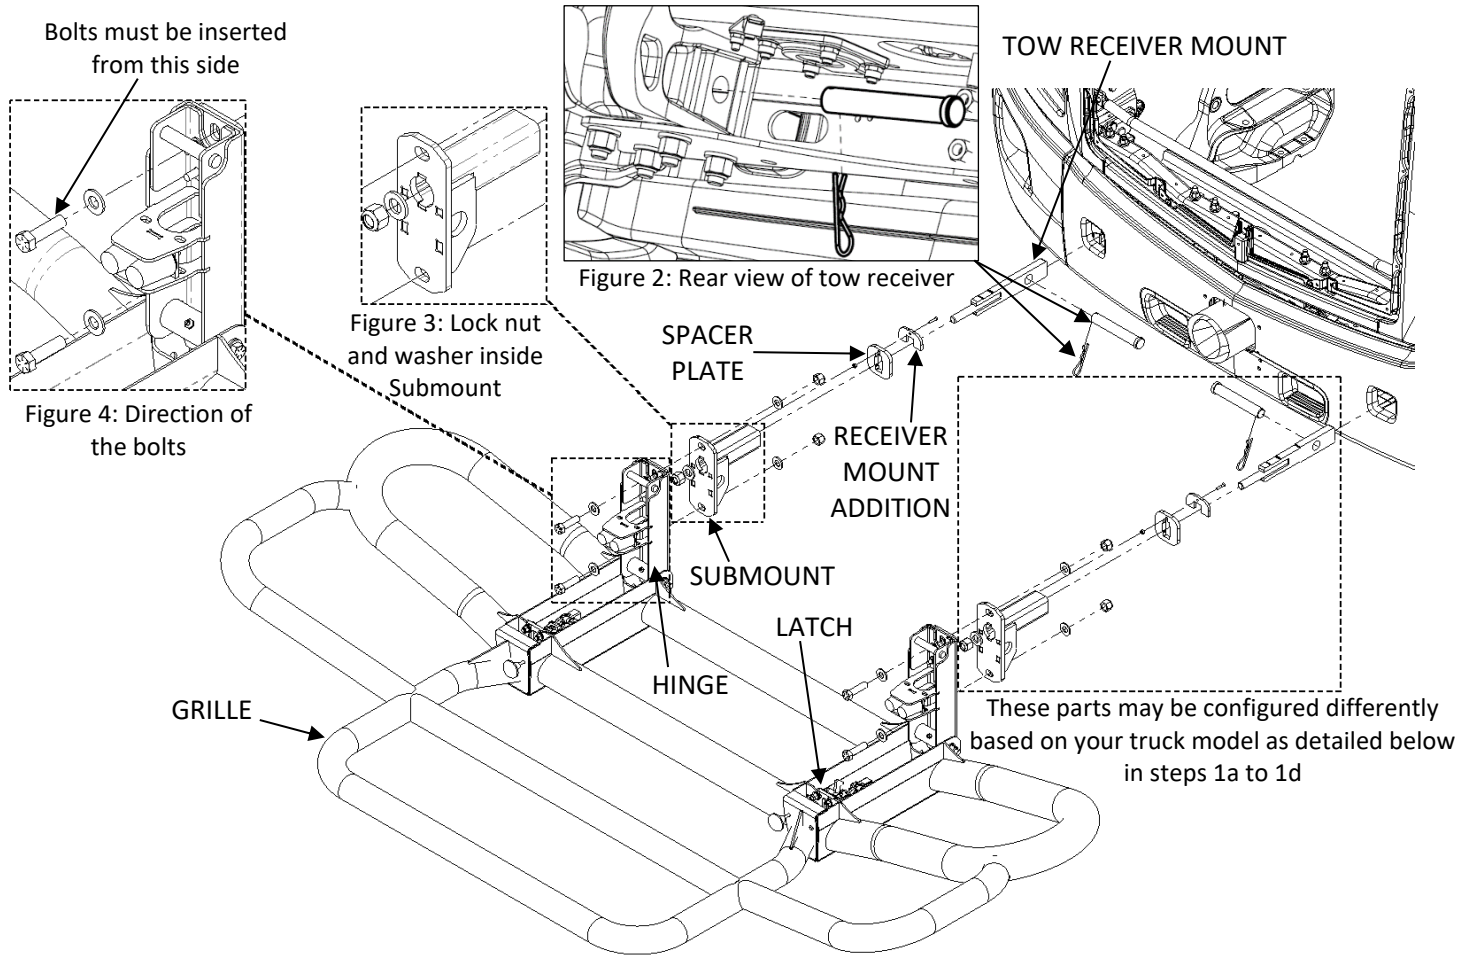

Figure 1: Grille Guard installation (Your Grille Guard may not be exactly as shown)
5. Open driver side Hinge and lift to driver side Submount. Hand tighten upper hardware shown in Figure 1 (**do not fully tighten**). Repeat for passenger side. **Ensure bolts are inserted from front (Hinge side) as shown in Figure 4 on page 1.**